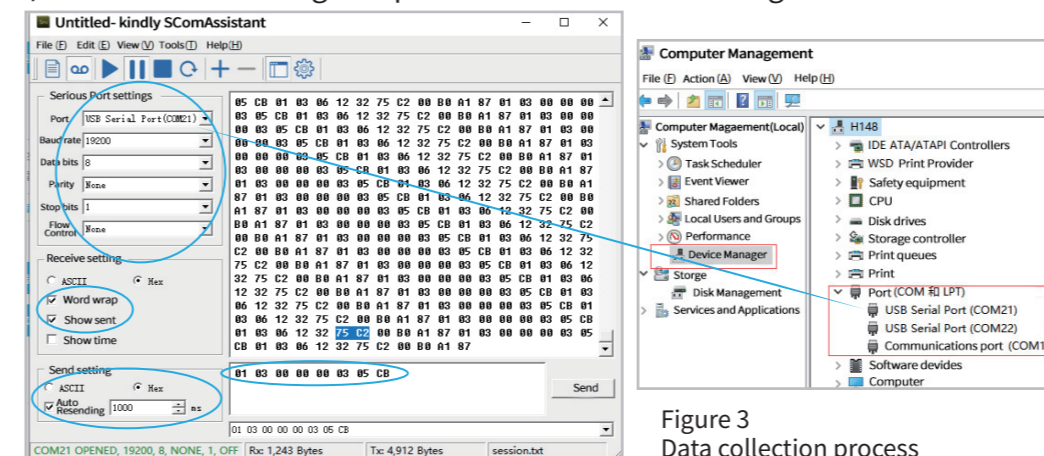

Figure 3. Data collection process
After sending such data, the data collected from the module can be displayed, and the data reading and precautions are shown in Figure 3:
Figure 3 are some things that need to attention in the data collection process:
5. The receive data please check the figure 3: